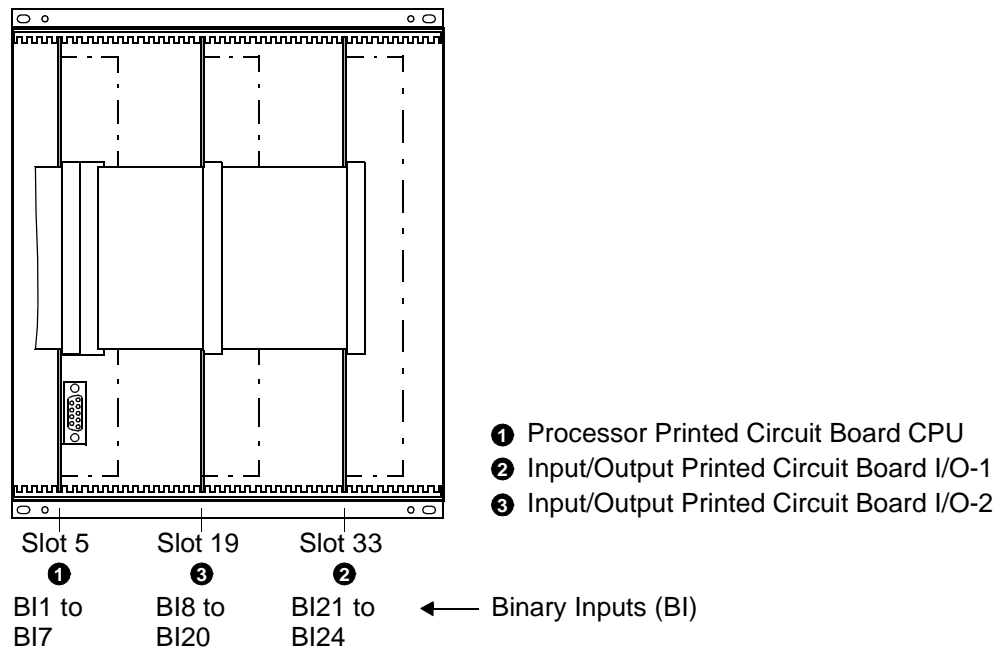

Figure 8-6 Front View (1/2 Size Housing) After Removing the Front Cover (Simplified and Reduced)
The locations of the printed circuit boards are shown in Figures 8-6 and 8-7.
- ☐ Carefully insert the boards into the case. The installation locations of the boards are shown in Figure 8-6 and 8-7. For the model of the device designed for surface-mounting, use the metal lever to insert the CPU board. The installation is easier with the lever.